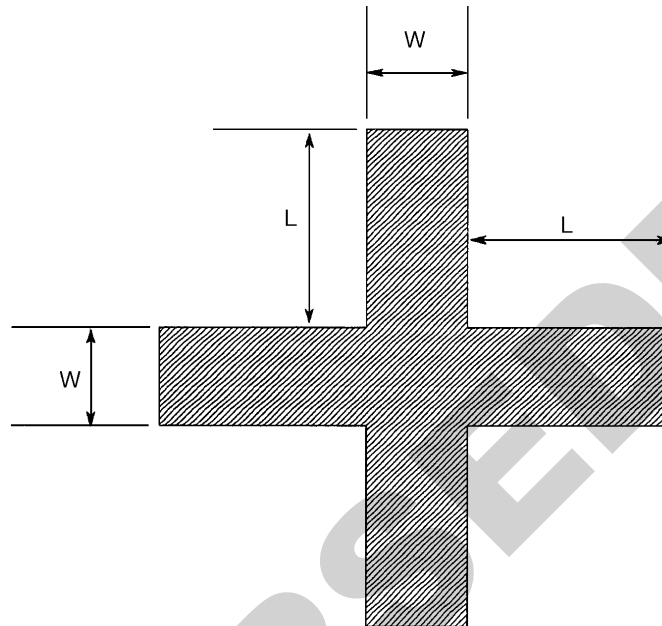

Figure 1
3.1 The shape of the mark shall be in the form of a cross (see Figure 1).